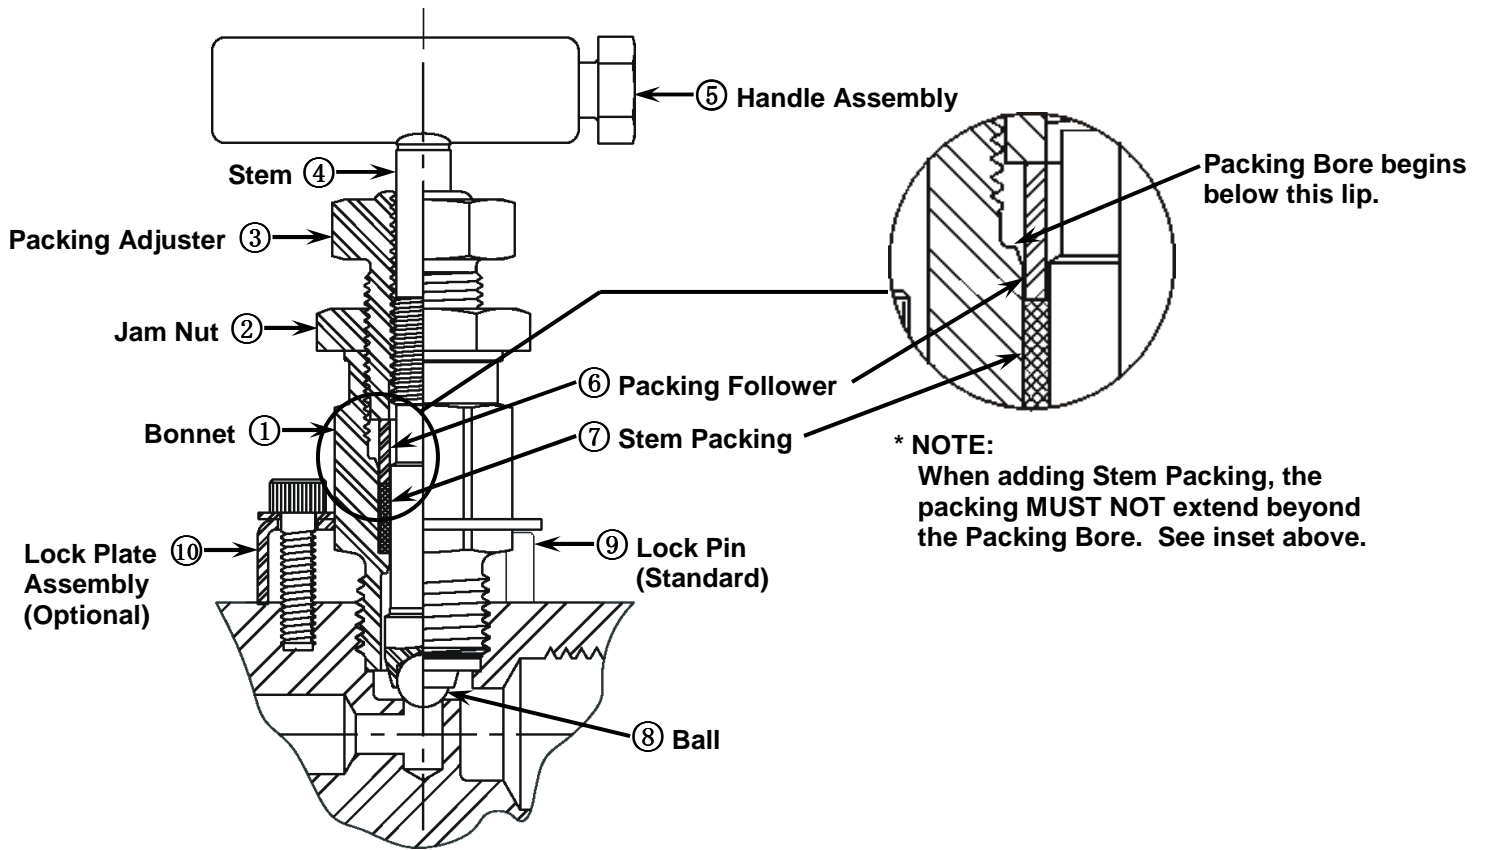

FIGURE 1
NOTE: The stem packing adjustment can be performed safely while the valve or manifold is under full line pressure. Refer to Figure 1 for corresponding part names and numbers.
If the Packing Adjuster will not turn with reasonable force, it has become bottomed out and the Stem Packing (Item 7 in Fig. 1) must be replaced. See Section III on page 6, for ADDING STEM SEAL PACKING INSTRUCTIONS.
NOTE: Refer to Figure 1, for corresponding part names.
(Item 9 in Fig. 1)
11. Insert new Stem Packing (Item 7 in Fig. 1) into the Bonnet Body.
Make sure the Packing Rings lie flat and below the larger bore in the Bonnet Body. (See Figure 1 inset.)
16. Turn the Handle **counter-clockwise** until you feel the Stem backseat against the Bonnet. The Ball (Item 8 in Fig.1) is now in the "full up" position.